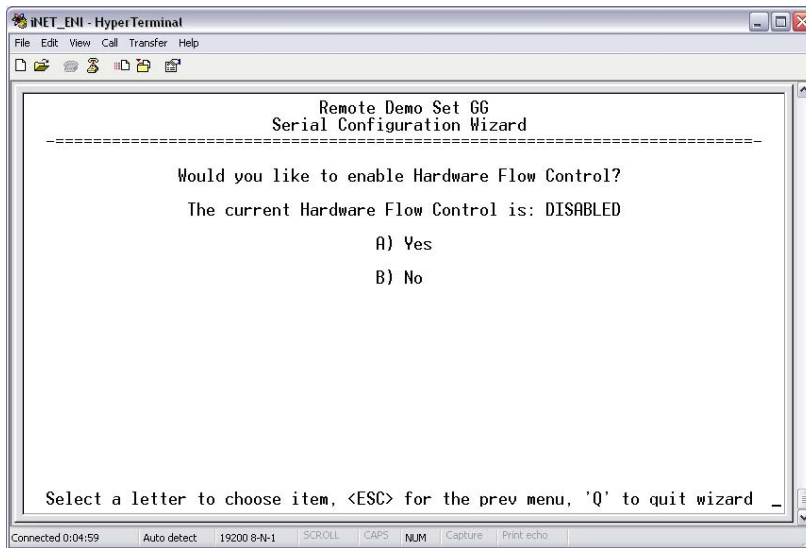

Figure A-16. Enable/Disable Hardware Flow Control
5. Press **A** to enable hardware flow control. Press **B** to disable hardware flow control. See Figure A-16.